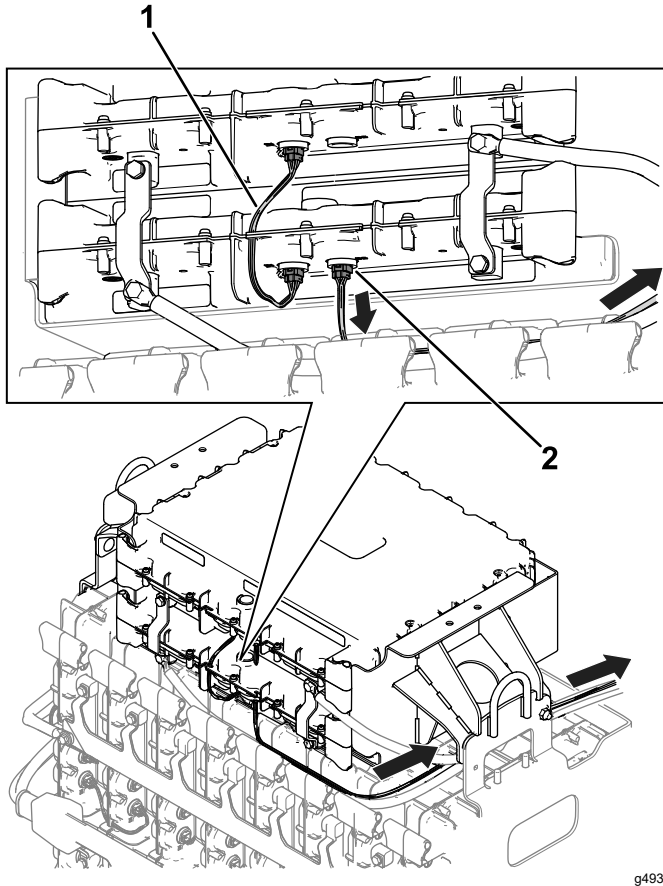

Figure 7
1. Connect the wire harnesses to the batteries as shown in Figure 7.
2. Route the remaining connector of the data-interface wire harness (45-1/2 inches) toward the rear battery tray (Figure 7).